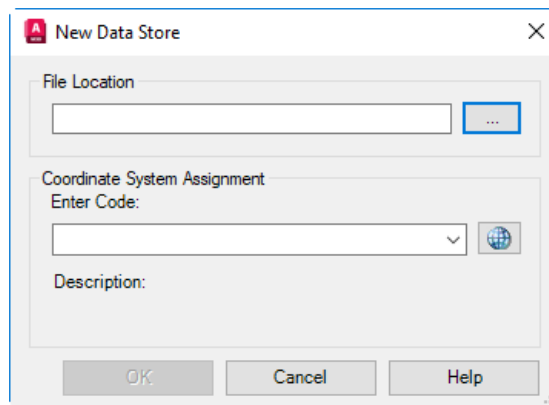

Figure 2-35 The New Data Store dialog box
3. From this pop-up menu, choose the **New Survey Data Store** option; the **New Data Store** dialog box is displayed, as shown in Figure 2-35.